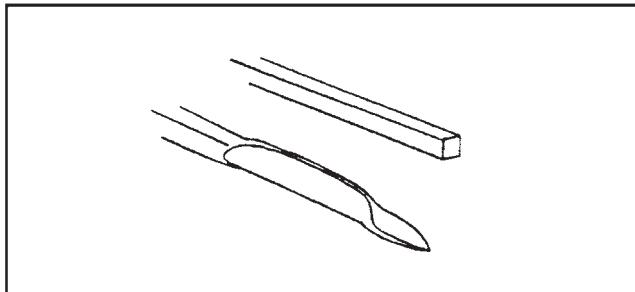

Figure 23.8 The mainspring is made by forging the keystock into a thin, leaf shape.
16. The mainspring is forged from a 6- to 8-inch piece of $\frac{3}{16}$ -inch square keystock. Forge one end of the bar into a thin, leaf shape as shown in Fig. 23.8.